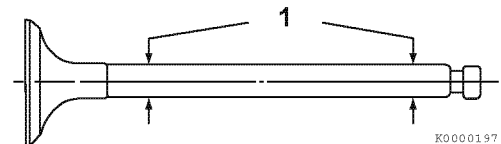

Figure 6-19
Use a micrometer to measure the valve stem diameter. Measure the valve stem near the combustion end and near the opposite end (**Figure 6-19, (1)**). See *Intake/Exhaust Valve and Guide* on page 6-5 for the service limit.